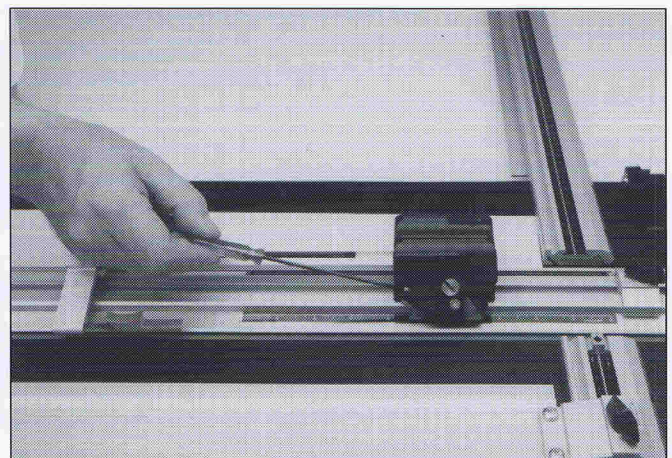

Fig. 2
2. Depress the bevel blade holder (20) fully and draw the cutter head towards you until the blade almost touches the edge of the mountboard. Look to see how far the blade has penetrated into the slip sheet. If this is correct, as above, complete the cut in the manner described on page 5 to confirm that the blade cuts cleanly.
4. Using the tool provided, turn the depth adjustment screw (fig.2.) at the front of the cutter head in the appropriate direction: